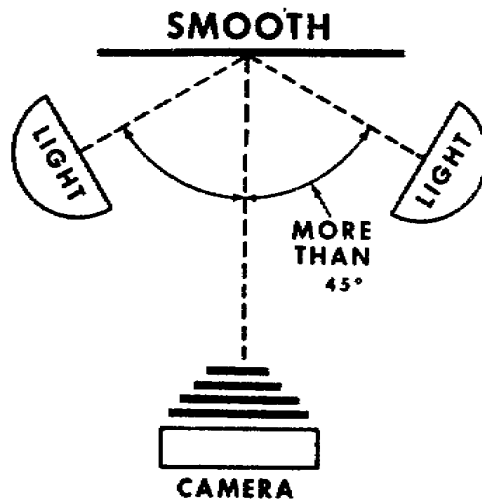

Figure 3-5. Lighting smooth surface
e. The angle should be increased when the surface of the original is very smooth (fig 3-5). Smooth surfaces reflect light, so you should use a more oblique light to prevent surface reflection from spoiling the copy.